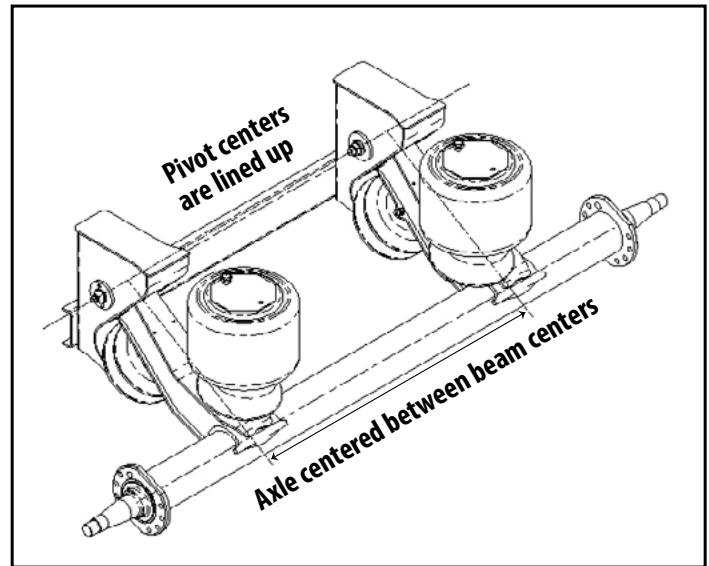

Figure 3.
1. Center the axle assembly on the beams (Fig. 3).